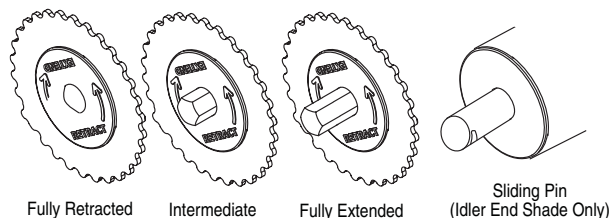
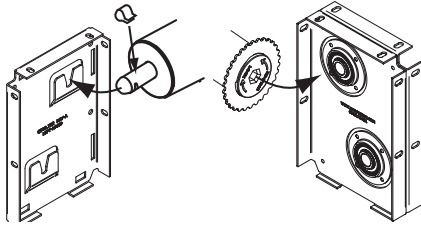

Figure 1
Figure 6
- ① If desired, the proper location of the coupler bracket assembly can be verified. Otherwise, proceed to step 2.
- ② Install first coupler bracket assembly to mounting surface.
- ③ Make sure the operator-end fabric/roller assembly's coupler shaft is completely retracted (see "Operating the Retractable Shaft" and Fig. 1).
- ④ Raise first rear/upper fabric/roller assembly into place. While one person inserts the operator end of fabric/roller assembly into the operator-end bracket, the second person lifts the coupler end up next to the coupler bracket assembly, then extends the coupler shaft to the intermediate position by rotating the ring clockwise about  $\frac{1}{3}$  of a turn (see "Operating the Retractable Shaft" and Fig. 1). This will hold the first unit in place during installation of the next panel.
- ⑤ For motorized shades, connect power so the shade can be operated and adjusted.
- ⑥ Operate the shade to ensure proper fabric tracking and to set up and down limits (see sections on limit adjustment and field adjustments).
- ⑦ Raise shade to upper limit.
- ① If desired, the proper location of the next bracket can be verified. Otherwise, proceed to step 2.
- ② Install the next coupler bracket to mounting surface.
- ③ The end of the previously-installed coupler shaft should be flush with the outside edge of the bearing. If it is extended beyond the bearing, you can retract the coupler shaft of the previously installed roller to the intermediate position (see "Operating the Retractable Shaft" and Fig. 1).
- ④ Lift both ends of the intermediate fabric/roller assembly into place and align between the rear/upper brackets.
- ⑤ One person fully extends coupler shaft of previously installed roller by rotating the metal ring clockwise about 1/2 of a turn when viewing the face of the coupler assembly (see "Operating the Retractable Shaft" and Fig. 1), until the shaft extends fully into the receiver of the fabric/roller assembly being installed.
- ⑥ The other person extends the coupler shaft of the fabric/roller assembly being installed to the intermediate position by rotating the ring clockwise about 1/3 of a turn (see "Operating the Retractable Shaft" and Fig. 1) so the end of the shaft is flush with the outside edge of the bearing.
- ⑦ Operate the shade to ensure proper fabric tracking.
- ⑧ Lower the unit (all shades will operate simultaneously) to lower limit.
- ⑨ If needed, the fabric panel heights can be adjusted so that the bottom edges of the fabric panels are aligned. **On large units, this procedure should be done on only one panel at a time to minimize the amount of fabric weight that must be supported during the adjustment procedure. See Fabric/Roller Assembly Alignment" on page 4 for instructions.**
- ⑩ Repeat steps above under "Second Fabric/Roller Assembly" for additional intermediate panels.
## Final (Idler-end) Fabric/Roller Assembly (see Fig. 6):
- ① If desired, the proper location of the next bracket assembly can be verified. Otherwise, proceed to step 2.
- ② Install idler-end bracket/endcap assembly.
- ③ Retract coupler shaft of previously installed roller to the intermediate position (see "Operating the Retractable Shaft" and Fig. 1). The end of the coupler shaft should be flush with the outside edge of the bearing.
- ④ Lift both ends of the idler-end fabric/roller assembly into place and align between the brackets/endcaps.
- ⑤ One person places the idler-end sliding shaft onto the idler end bracket (see Fig. 6). Lock shaft in place by placing retaining clip on shaft.
- ⑥ The other person fully extends coupler shaft of previously installed roller by rotating the metal ring clockwise about 1/2 of a turn when viewing the face of the coupler assembly (see "Operating the Retractable Shaft" and Fig. 1), until the shaft extends fully into the receiver of the idler-end fabric/roller assembly.
- ⑦ Operate the unit to ensure proper fabric tracking.
- ⑩ Repeat steps followed for rear/upper fabric/roller assemblies under First (Operator-end) Fabric/Roller Assembly, Second Fabric/Roller Assembly and Final (Idler-end) Fabric/Roller Assembly sections above for lower/front fabric/roller assemblies.